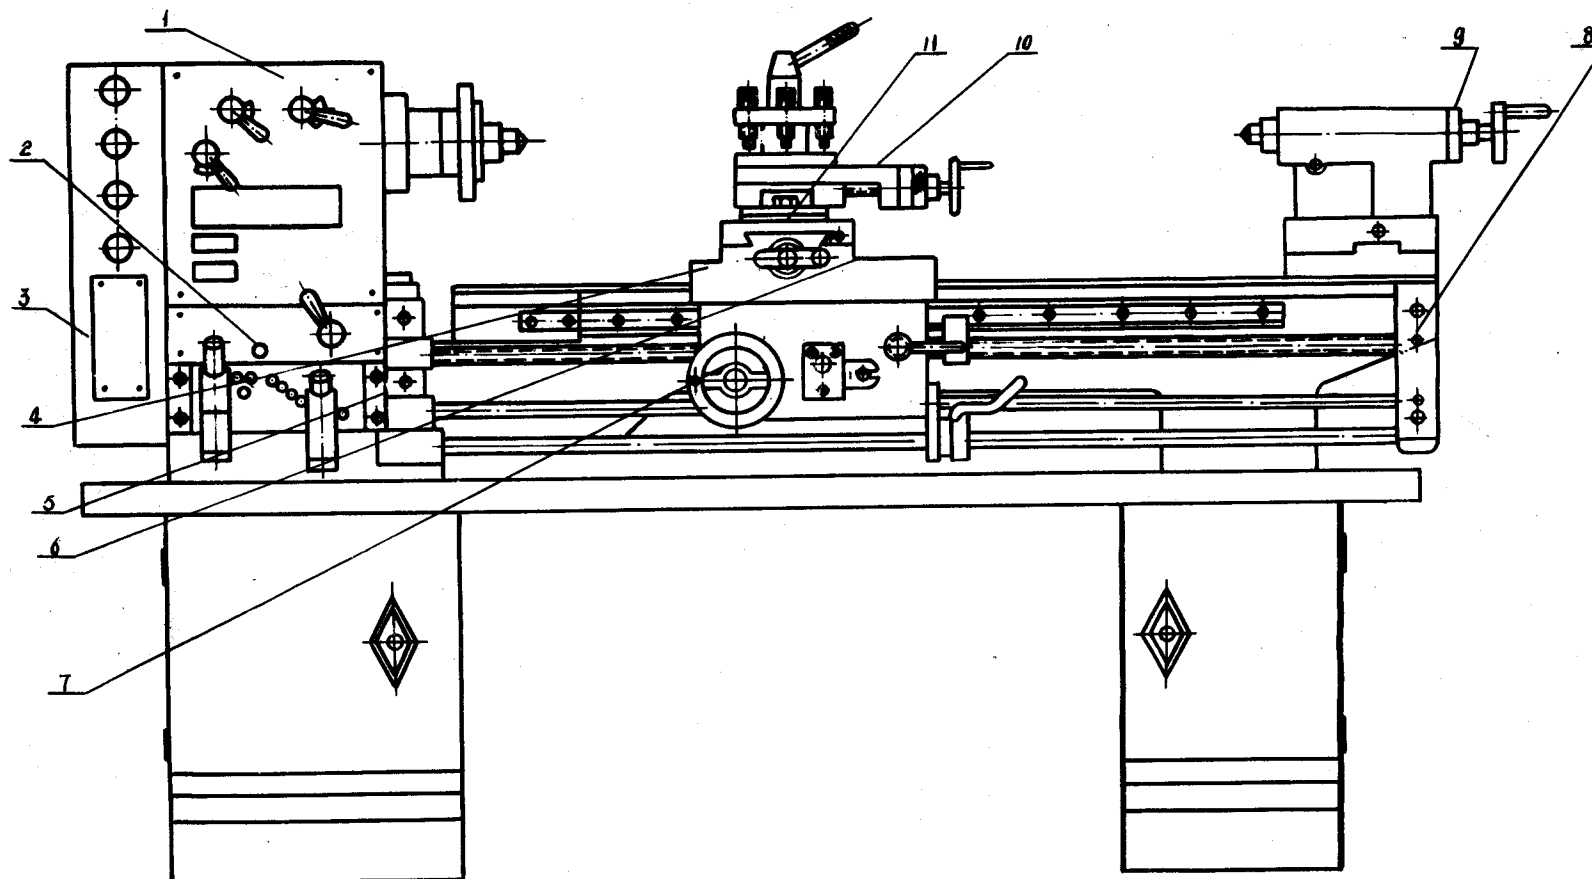

Fig. 6 Lubrication Chart
- * All moving parts and sliding surfaces should be regularly lubricated with clean lubricating oil. Please refer to Fig. 6 for the lubrication holes.
- * No.2 through 11 are lubrication points (see Fig. 6). They are oiled with oil gun twice a day.